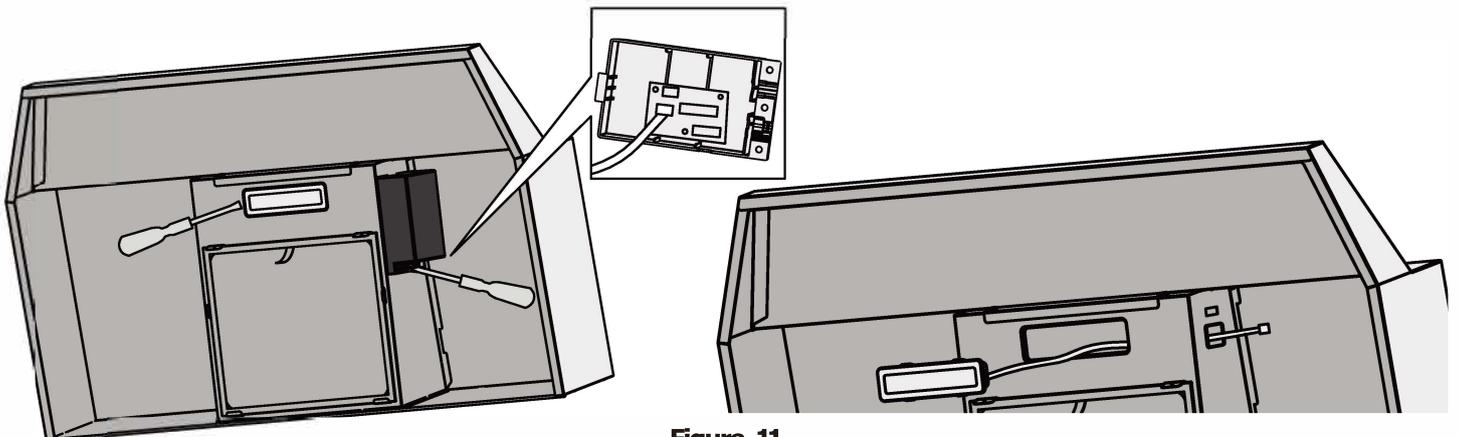

Figure 11
2. Open the wiring compartment with a Phillips screwdriver, and unplug the light (Figure 11). Gently use screwdriver to push down until light pops out from its location. Pull out the LED light.